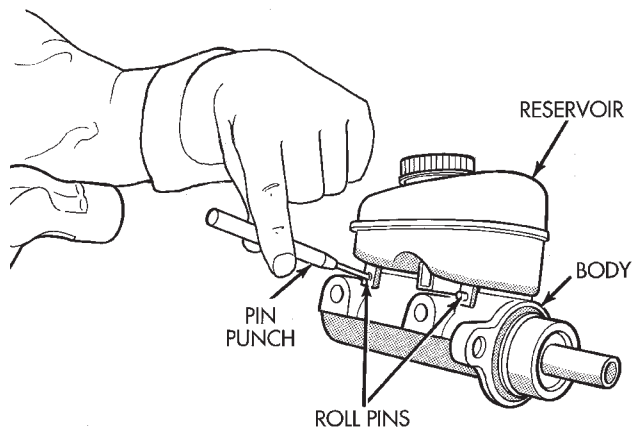

Fig. 41 Reservoir Retaining Pins
(1) Remove reservoir cap and empty fluid into drain container.
(2) Remove pins that retain reservoir to master cylinder. Use hammer and pin punch to remove pins (Fig. 41).